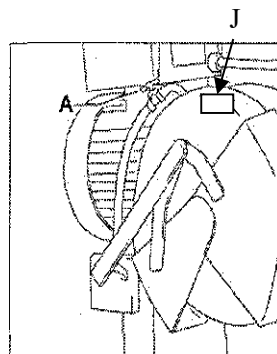

Fig 4.02
The use of proper cutting fluid is essential to obtain maximum efficiency from a band saw blade. The main cause of tooth failure is excessive heat build-up. This is the reason that cutting fluid is necessary for long blade life and high cutting rates. Cutting area and blade wheels should be kept clean at all time. The rate of coolant flow is controlled by the stop valve lever (J) in Fig.4.02 which directs the coolant onto the blade. The lever (J) is shown in the off position. Circulation system